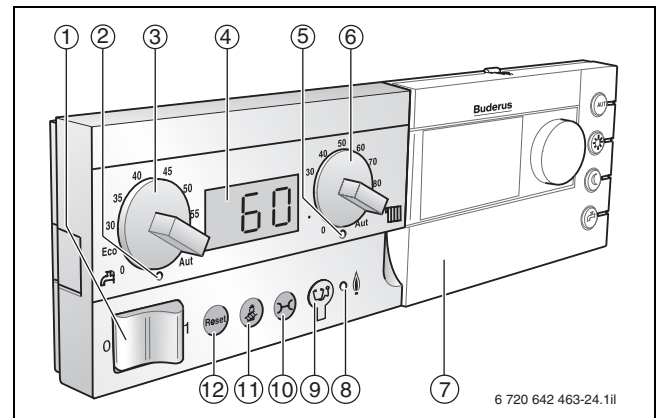

Fig. 25 Displays/indicators and controls on the Logamatic BC10 base controller
- Starting and shutting down the gas condensing boiler and all connected modules via an ON/OFF switch (→ fig. 25, pos. 1)
- LED showing “DHW heating” (→ fig. 25, pos. 2)
- DHW temperature setting (→ fig. 25, pos. 3)
- LCD to display status and fault diagnosis (→ fig. 25, pos. 4)
- LED “DHW and CH heat demand” (→ fig. 25, pos. 5)
- Limitation of the boiler water temperature to a maximum level (→ fig. 25, pos. 6)
- LED “Burner operation” (→ fig. 25, pos. 8)
- Connection socket for diagnostic plug for connecting a laptop (→ fig. 25, pos. 9)
- “Show status” key for switching the display between various functions (→ fig. 25, pos. 10)
- “Emissions test” key for flue gas test and manual mode (→ fig. 25, pos. 11)
- “Reset” button for resetting the burner in the event of lockout faults (→ fig. 25, pos. 12)